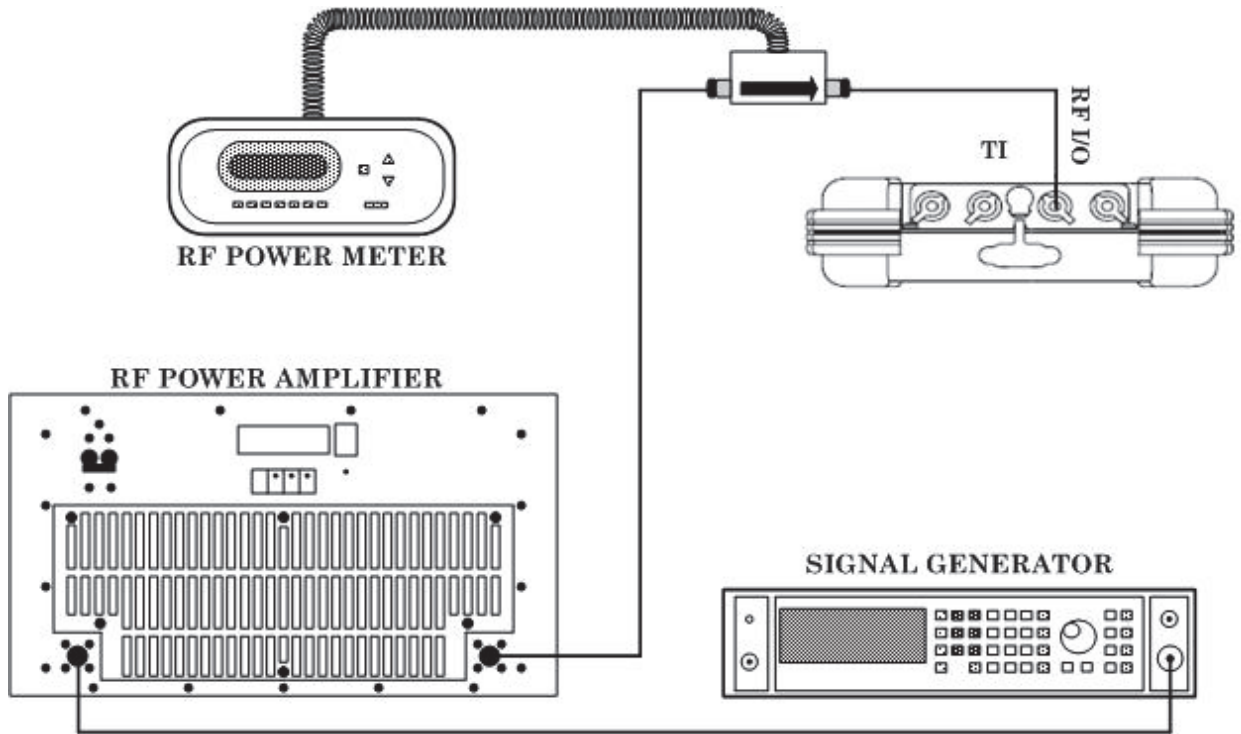

Figure 3. Power Meter Setup.
- (1) Press **SETUP** to display **SETUP** mode screen.
- (2) Set **PORT** to **RF I/O**.
- (3) Press **MODE** until **COMM AM** mode screen is displayed.
- (4) Connect RF reference source to TI **RF I/O** connector.
- (5) Set RF reference source for a 100 MHz, 100 mW output. If TI **TX PWR** does not indicate between 0.08 and 0.12 W, perform **b** below.
- (6) Change RF reference source frequency to 300 MHz. If TI **TX PWR** does not indicate between 0.08 and 0.12 W, perform **b** below.
- (7) Disconnect RF reference source from TI **RF I/O** connector.
- (8) Connect equipment as shown in figure 3.
- (9) Set signal generator to first frequency listed in table 36.
- (10) Adjust both signal generator and RF power amplifier outputs, as necessary, to obtain first rf power meter indication in table 36. If TI **TX PWR** does not indicate within the limits listed in table 36, perform **b** below.
- (1) Perform paragraph **6 g** to access **CALIBRATION** menu screen.
- (2) Press [**MISC CALS**] to display **MISC CALS** screen.
- (3) Press [**POWER METER**] to display **POWER METER CAL** sequence screen.
- (4) Disconnect test equipment from TI **RF I/O** connector.
- (5) Follow on screen prompts.
- (6) In **STEP 2**, when prompted to connect equipment to **RF I/O** port, reconnect equipment as shown in figure 3.
- (7) When calibration sequence is completed, press [**SAVE & RETURN**] to return to the **MISC CAL** screen.
- (8) Press [**RETURN**], as needed, to return to **SETUP** menu.